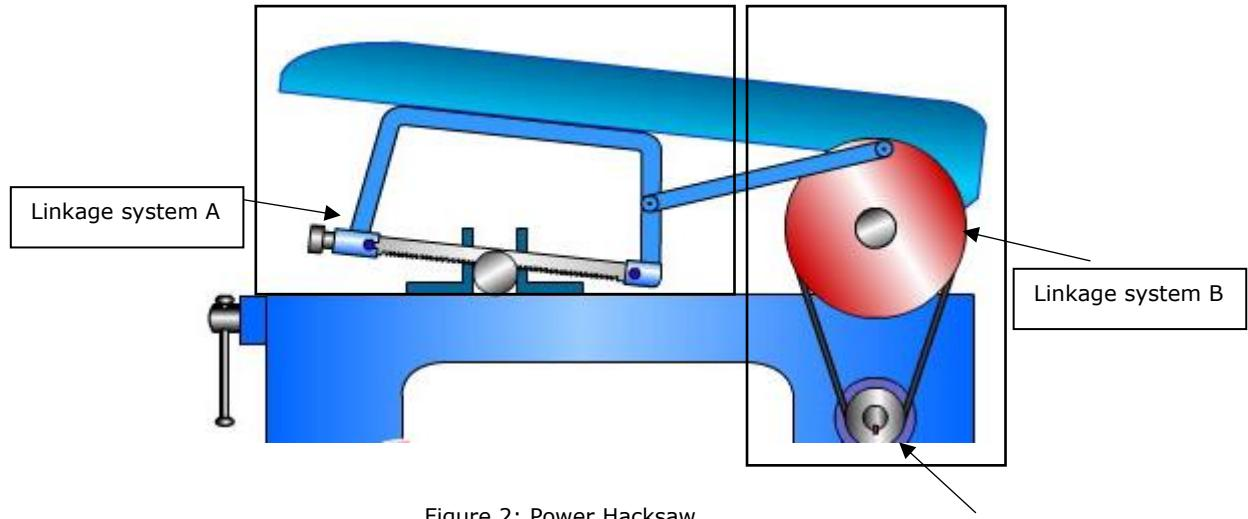

Figure 2: Power Hacksaw
i.	ii. (2)
c. Describe the output of the linkage systems A and B given in Figure 2.